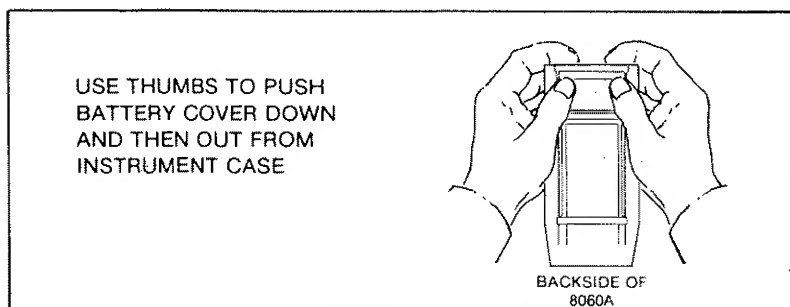

Figure 2-1. Removal of Battery Compartment Cover
3. Turn the instrument over and use your thumbs to pry off the battery cover as shown in Figure 2-1.